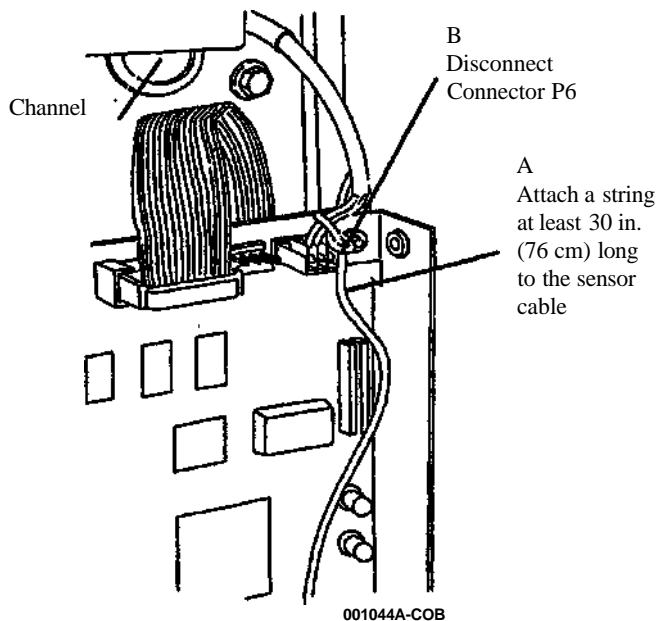

Figure 1. Connector P6, Attaching the String
3. (Figure 1): Prepare to remove the Edge Registered Sensor.